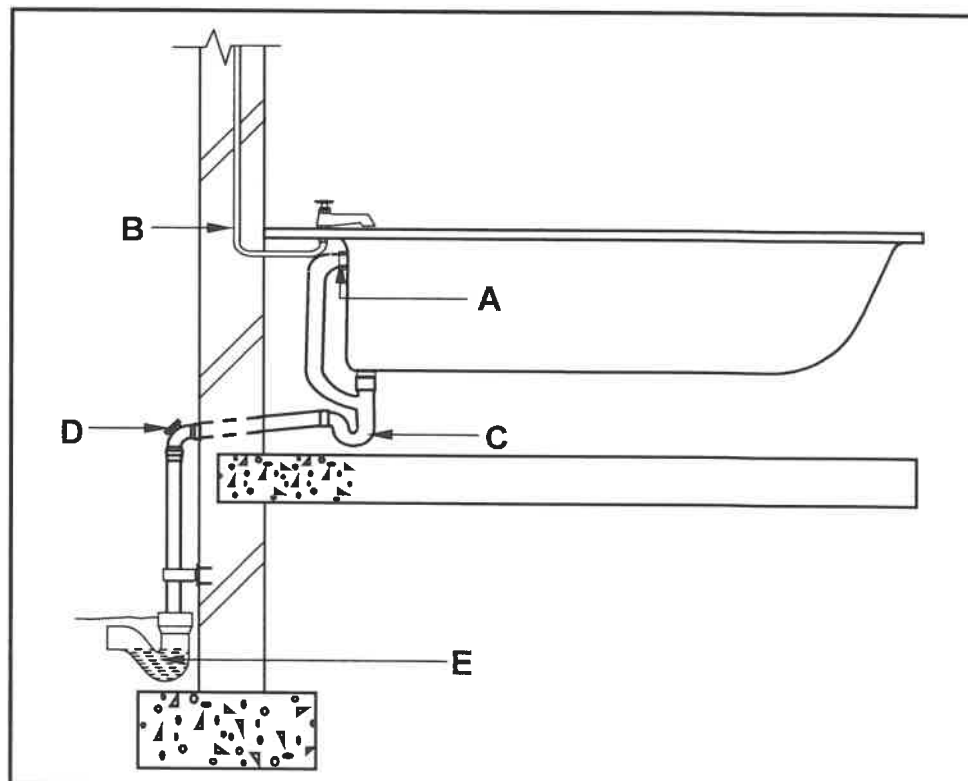

FIGURE 6.3
- 6.3 FIGURE 6.3 below is a drawing of a side elevation of an installed bath.